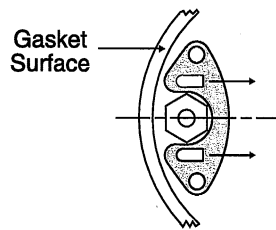

Figure 4
6. Mount the guide pin assembly with the two screws provided. The guide pins must always point away from the adjoining gasket surface (See figs. 4 and 5).